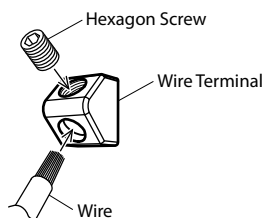

Fig. 8
3. Tighten the set screw with the hexagon wrench (included) to secure the lead. (Fig. 8)